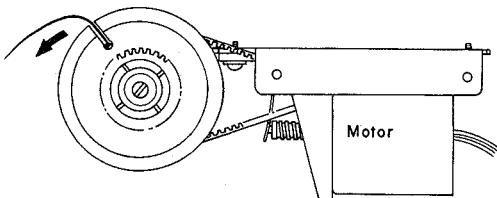

Fig. 5.2.4
- Refer to Figs. 5.2.4 and 5.2.5. Insert the knot of Thread B in the notch of the Volume Clutch, wind the thread twice around it, and fix it temporarily with scotch tape, etc. so as not to make it loose.